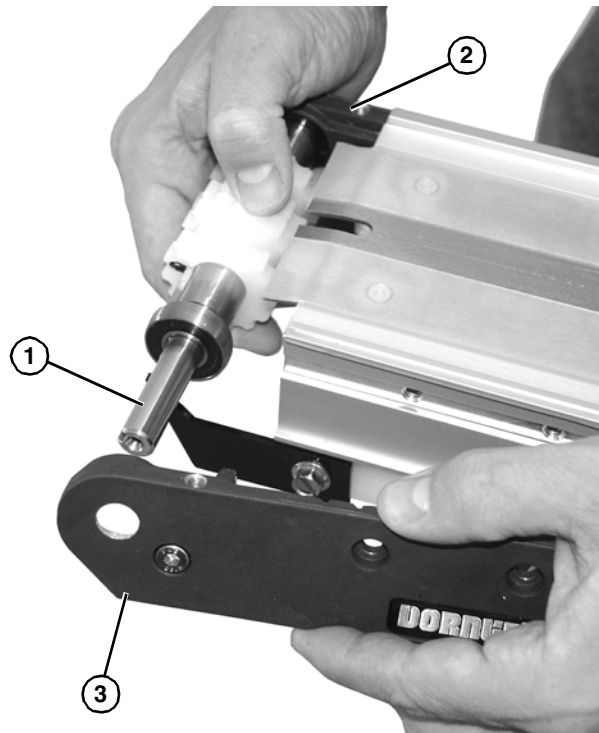

Figure 54
3. Install pulley assembly (**Figure 54, item 1**) on conveyor head plate (**Figure 54, item 2**) and install opposite end head plate (**Figure 54, item 3**).